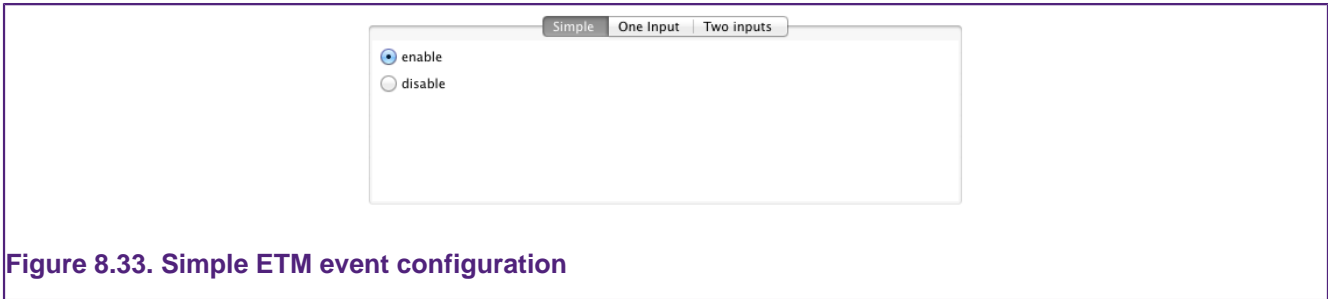

Figure 8.33. Simple ETM event configuration
- The simplest option is a binary enabled/disabled choice. This is accessed by selecting the **Simple** tab. Select **enable** for the Event to always be true or **disable** for the event to always be false. See Figure 8.33.